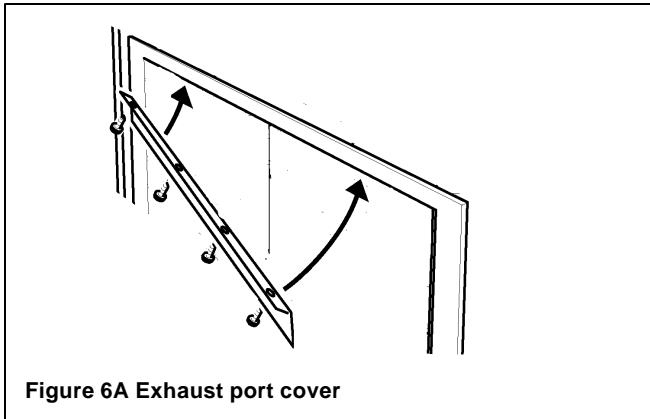

Figure 6A Exhaust port cover
6.3 Fit exhaust port cover (see figure 6A)